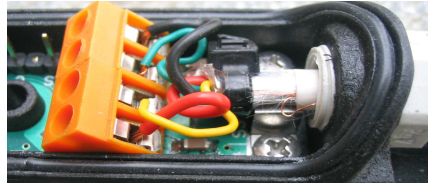

Fig. 10
- 5) Cut, shear and fix the 4 wirings into the terminal blocks and block the chock (Fig. 10).